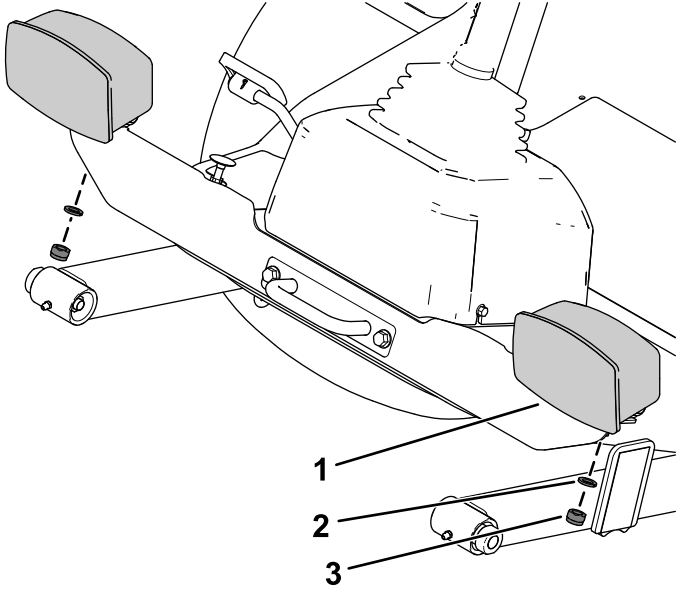

Figure 13
3. Secure the left light assembly and right light assembly to the light cross mount using the lock washer and hex nut on the light assemblies (Figure 13).